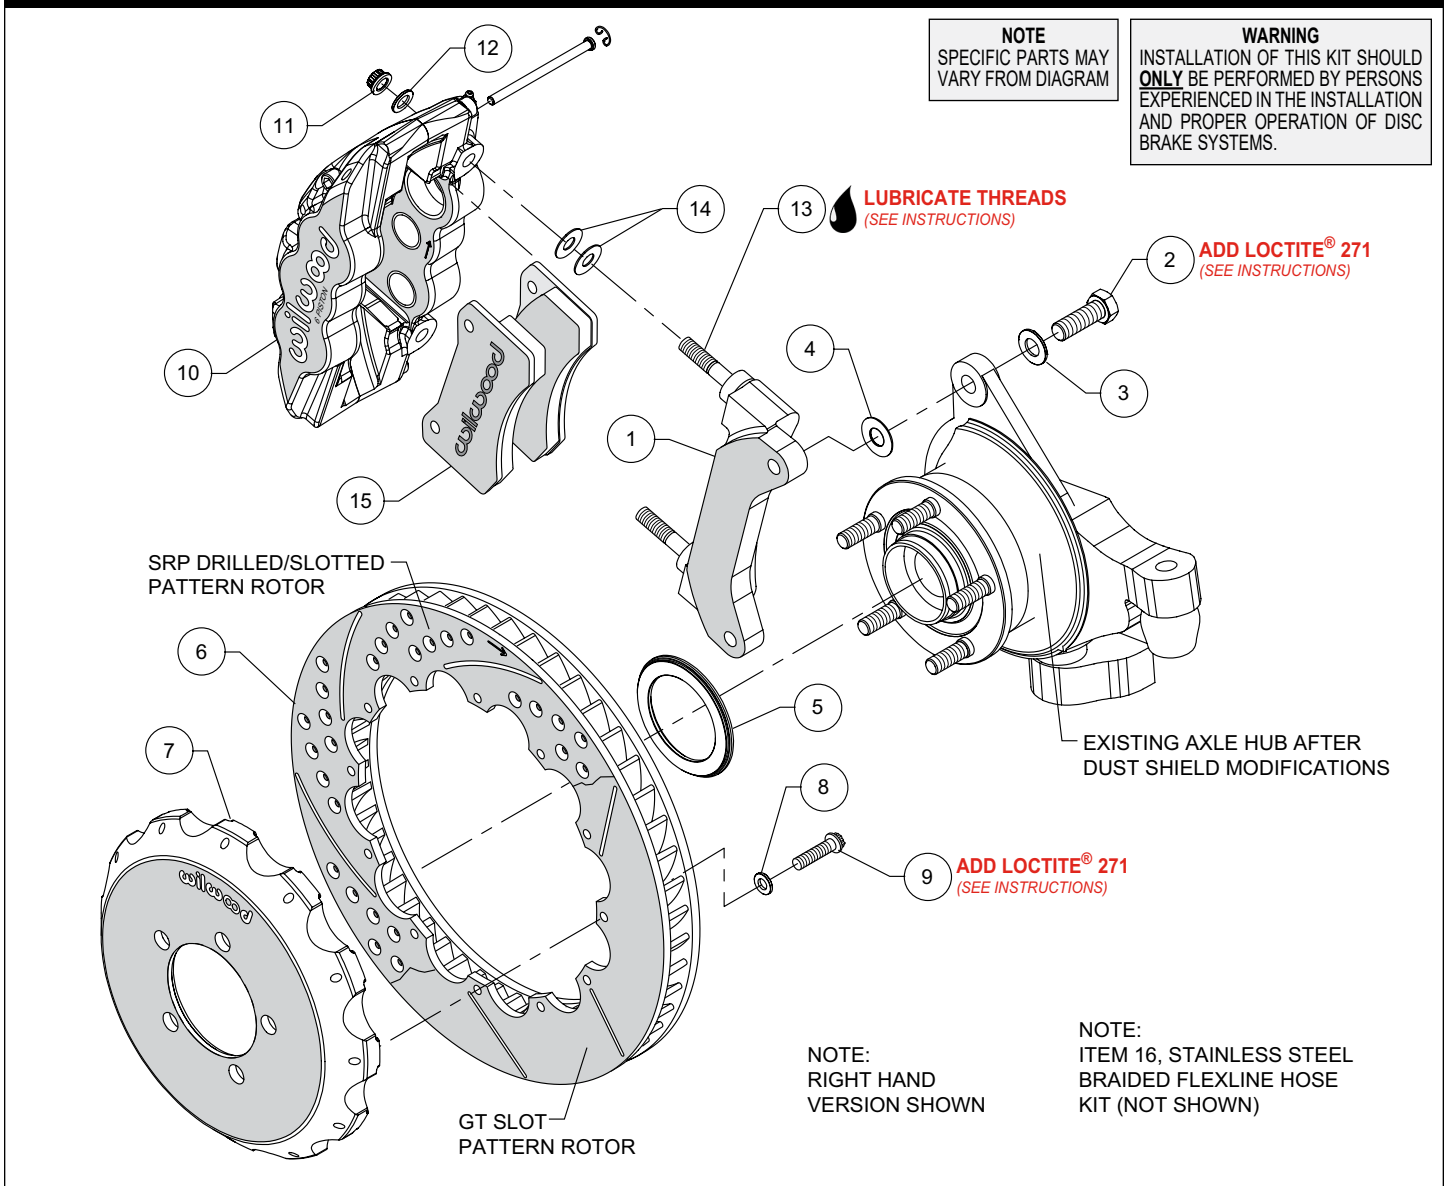
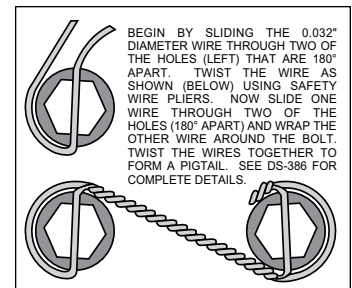

Figure 1. Typical Installation Configuration
Figure 4. Safety Wire Diagram
Assembly Instructions (numbers in parenthesis refer to the parts list and Figure 1 on the preceding pages):
•The caliper mount bracket (1) should initially be installed with clean, dry threads on the mounting bolts. Orient the bracket as shown in Figure 1, and install using washers (3) and bolts (2). Initially place one shim (4) on each bolt between the bracket and upright, Figure 1. Temporarily tighten the mounting bolts. **NOTE:** *The bracket must fit squarely against the mount bosses on the upright.* Inspect for interference from casting irregularities, machining ridges, burrs, etc. Later, after the caliper alignment has been checked, the mount bolts will be secured using red *Loctite*® 271.
•Orient the rotor (6) and the hat (7) as shown in Figure 1 and Photo 1. Attach rotor to hat using bolts (9) and washers (8). Apply red *Loctite*® 271 to the bolt threads and torque to 155 **in-lb** using a criss-cross pattern. For an added measure of security, the bolts may be safety wired using standard 0.032 inch diameter stainless steel safety wire as shown in Figure 4. Please refer to Wilwood's data sheet DS-386 (available at www.wilwood.com/Pdf/DataSheets/ds386.pdf) for complete safety wire installation instructions.
•**NOTE:** *This kit contains distinct right and left hand calipers that must be mounted in a specific direction, as described below.* Lubricate the caliper mounting studs (13) with lightweight oil. Initially place two .030" thick shims (14) on each stud as shown in Figure 1 and Photo 3. Mount the caliper (10) onto the bracket (1) using lock nuts (11) and washers (12), Figure 1. Ensure that the caliper is mounted so that the largest pistons are at the rotor exit end of the caliper, in relation to the direction of rotor rotation. Temporarily tighten the lock nuts and view the rotor through the top opening of the caliper. The rotor should be centered in the caliper, Photo 4. If not, adjust by adding or subtracting shims (4) between the bracket and the upright. Always use the same amount of shims on each of the two mounting bolts. Once the caliper alignment is correct, remove the bracket mounting bolts (2) one at a time, apply red *Loctite*® 271 to the threads, and torque to 60 ft-lb.
•Remove the two pad retaining pins from the caliper (10) by carefully popping out the pin retaining clips and sliding out the pins. Insert the brake pads (15) into the caliper from the bottom, Figure 1 and Photo 5. With the friction material facing the rotor, secure the brake pads in place with the pad retaining pins and clips, Photo 6. Reinstall the caliper onto the caliper mounting bracket and temporarily tighten the lock nuts. Check that the